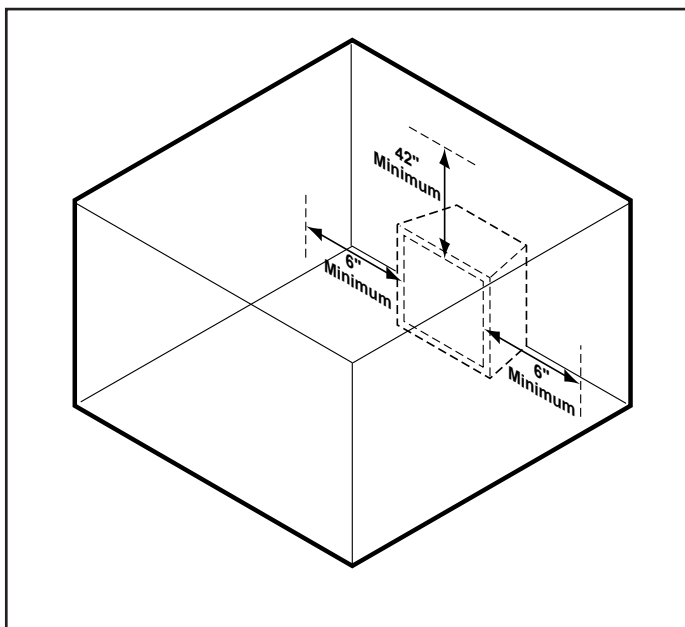

Figure 6.1 Clearance and Height Requirements
Ensure that minimum clearances shown in Figures 6.1 through 6.3 are maintained. Left and right clearances are determined when facing the front of the firebox.
1. **Sidewall clearances:** The clearance from the inside of the appliance to any combustible wall should not be less than 6". See Figure 6.1.
2. **Ceiling clearance:** The ceiling must be at least 42" from the top of the firebox opening. See Figure 6.1.